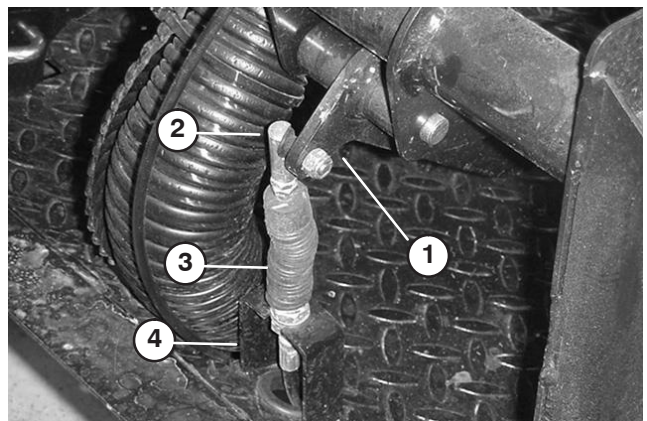

Figure 47
1. Remove nut securing clutch cable ball joint end to clutch pedal pivot (Fig. 47).